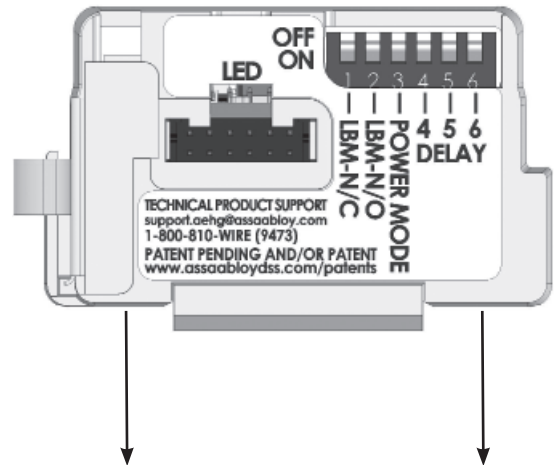

Figure 15 - DIP Switch Setting for Timer Mode Installation
2. Ensure DIP Switch (position 3) disables Power Mode (Figure 15). Set to OFF to disable.